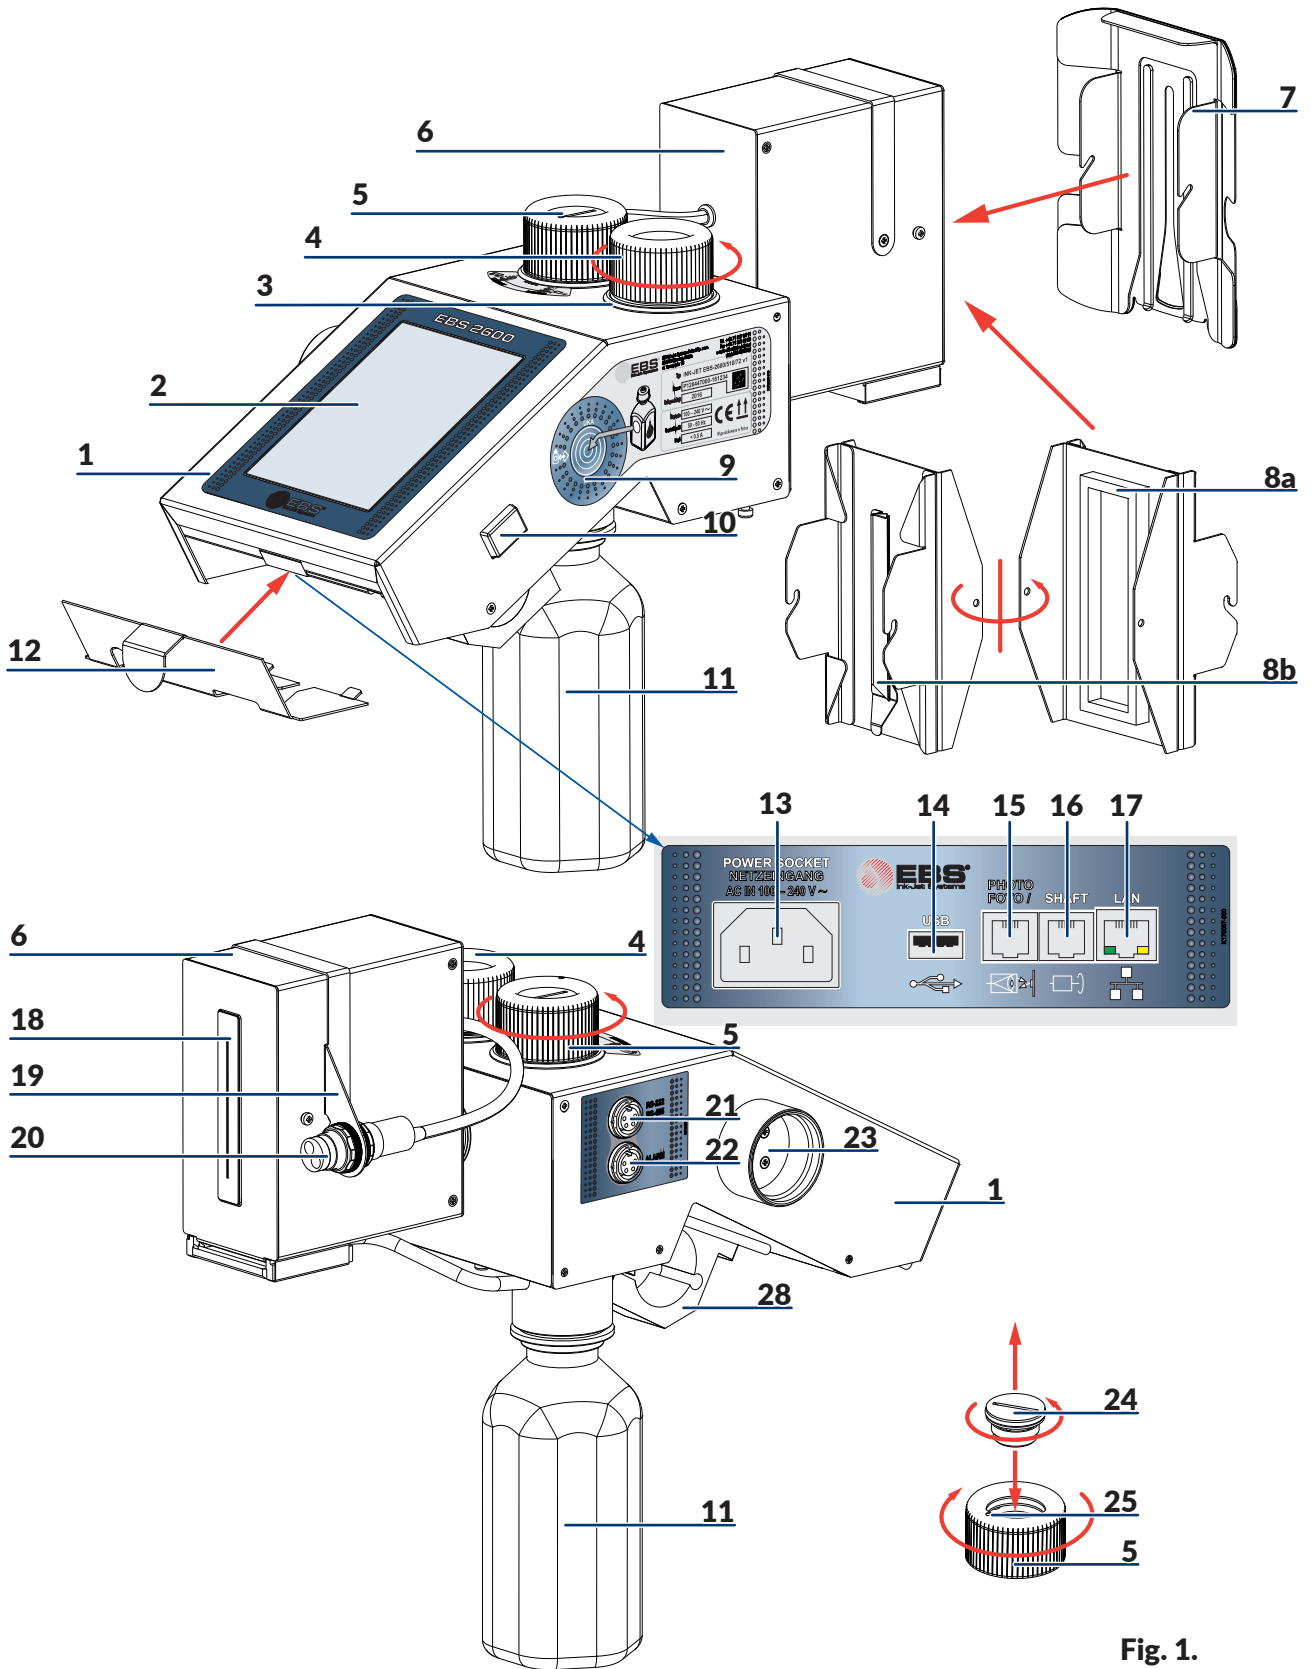
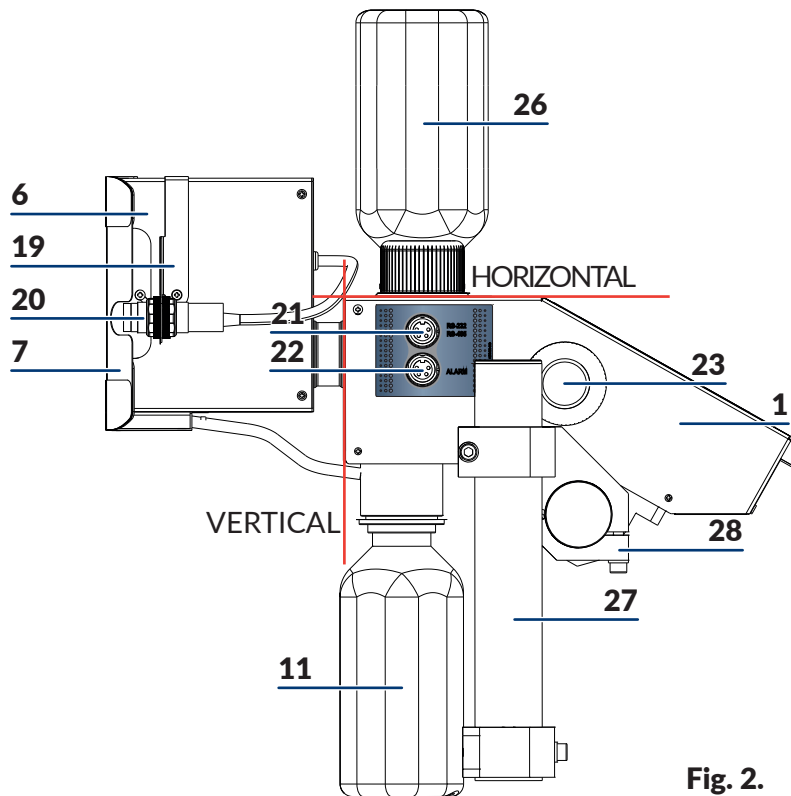

Fig. 1.
Fig. 2.
- If you need to disconnect the printer from the electrical mains, take out power plug from the mains socket **13** (see **Fig. 1 (p. 11)**).
See *Fig. 1 (p. 11)* and *Fig. 2 (p. 12)*.
See **Fig. 1 (p. 11)**.
3. Unscrew cap **4** out of sea **3** carefully (the direction of unscrewing is shown in **Fig. 1 (p. 11)**) and remove it. Put the unscrewed cap **4** in seat **23** which is on the left-hand side of the controller.